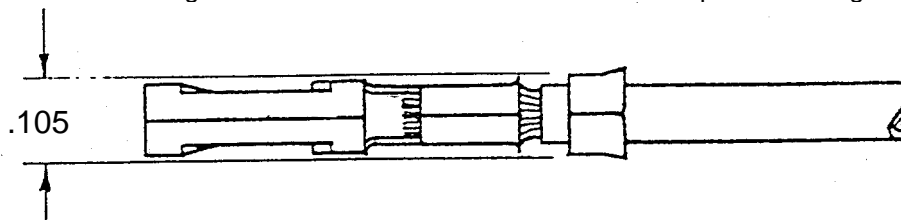

FIGURE 4
2. The side to side bending of the contact shall not exceed the limits specified in Figure 4.